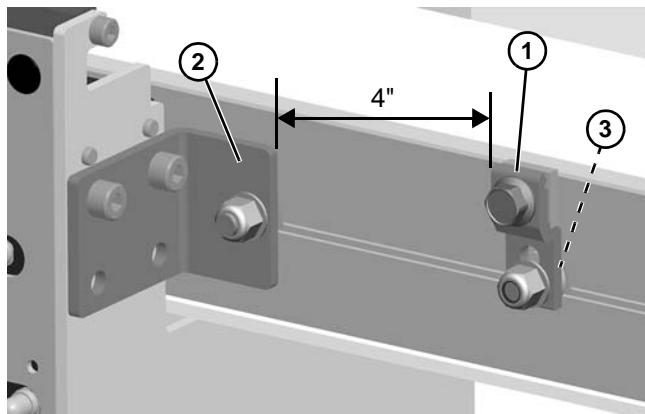

Figure 12
9. Install lead in guide clip (**Figure 12, item 1**) 4" before angle bracket (**Figure 12, item 2**). Lead in guide clip has a washer (**Figure 12, item 3**) between the frame and clip.